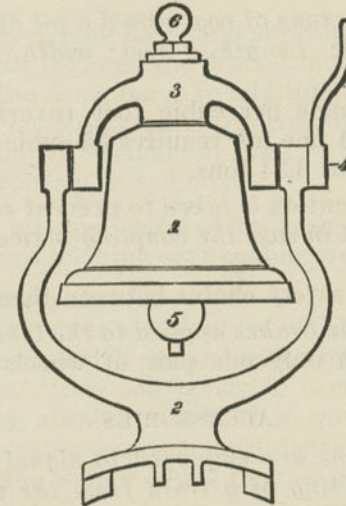
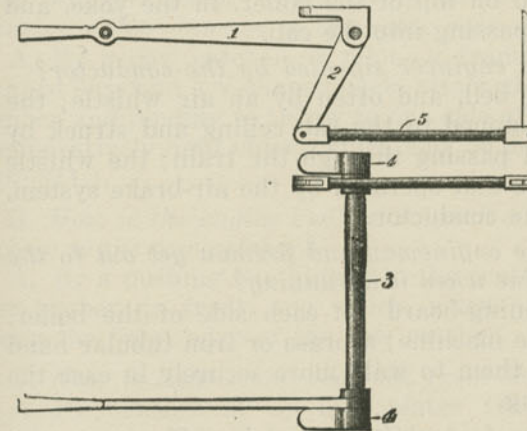

Fig. 307. Bell and Frame.
Fig. 308. Whistle Work.
A. The bell (Fig. 307) and the whistle (Figs. 308 and 309).